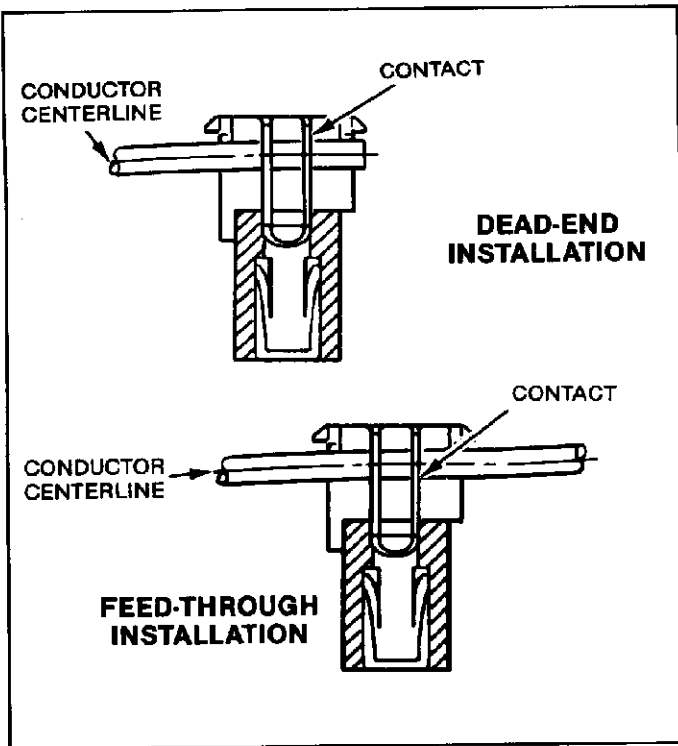

Fig. I-5
2. With the slide base in the OUT position, lace the individual wires in alternate slots of the wire guide and into the connector. The wires should be positioned near the back wall of the connector for dead-end terminations, or they should be laced over the slotted contact beams for feed-thru terminations. See Figure I-5.